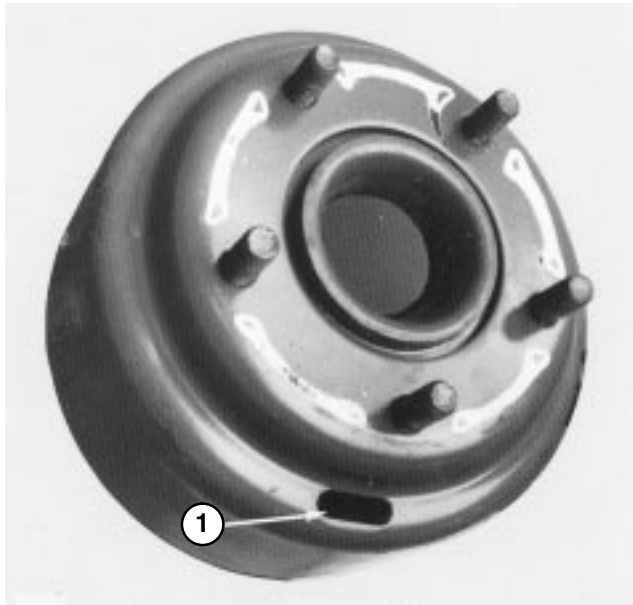
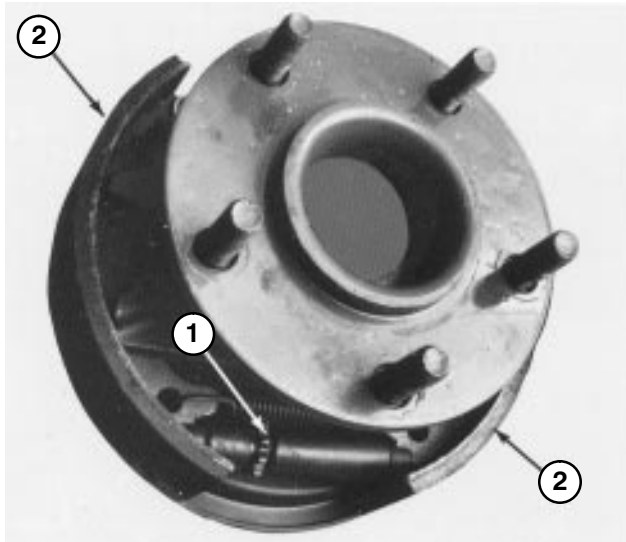

Figure 61
Figure 62
5. Remove wheel nuts and slide wheel and tire assembly off studs. Rotate brake drum until adjusting slot is at bottom and centered over star nut that adjusts brake shoes (Fig. 61).
6. Using a brake adjusting tool or screwdriver, rotate star nut (Fig. 61) down until brake drum (Fig. 62) locks because of outward pressure of brake shoes (Fig. 62).